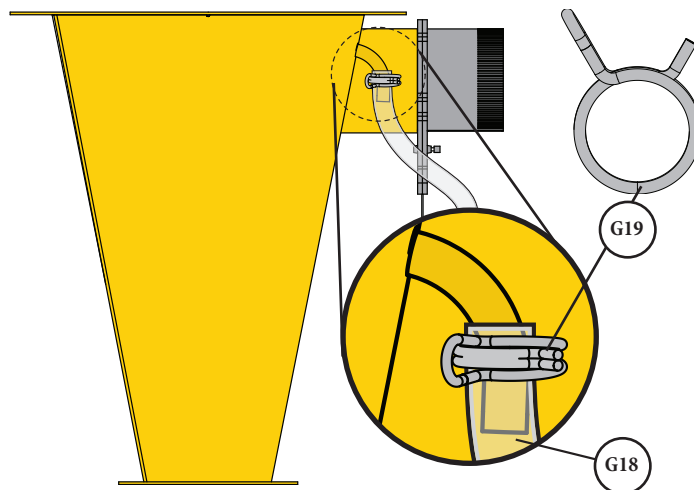

FIG. 19a
Using pliers, squeeze and open the Double Spring Clamp (G19) and slip it onto the shorter end of the Tubing Assembly (G18A). Then, with the clamp still open, slide the Tube Assembly (G18) onto the vent tube near the Cyclone's (E) inlet, closing the Spring Clamp once the hose is fully seated [FIG. 19a].